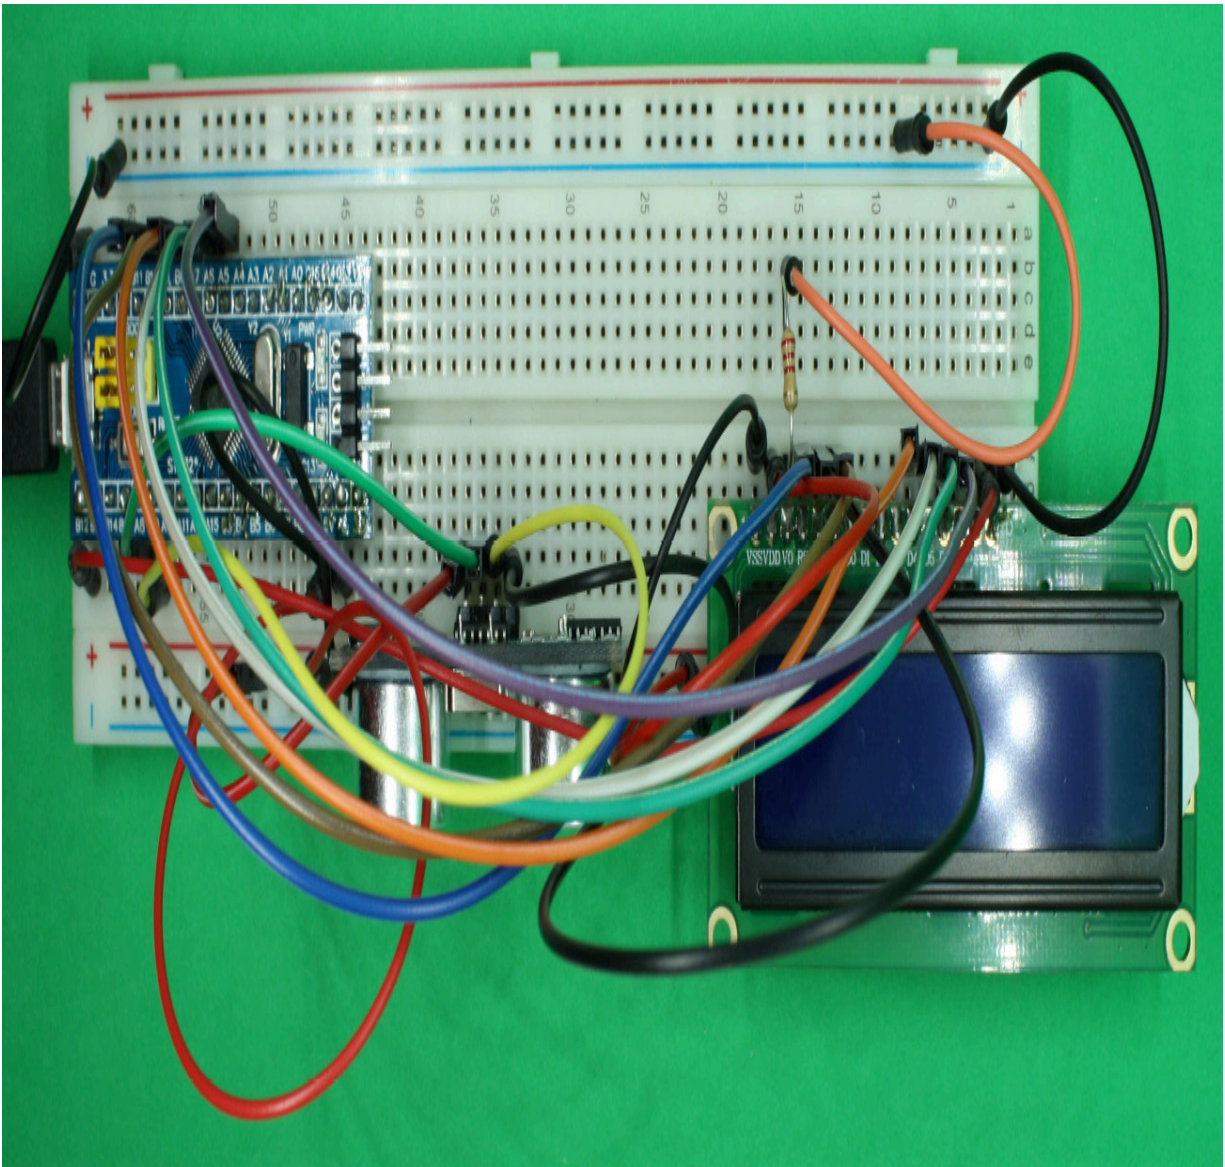

Figure 14.8 – The Blue Pill connected to the LCD and the ultrasonic sensor
*Figure 14.8* shows how everything is connected:
Please note from *Figure 14.8* that all the connections from the ultrasonic sensor are done on its back side. This is to avoid any cable obstructing the ultrasonic signals sent and received on the front of the sensor. Also note that the 1602 LCD's power (pin **VDD**) is connected to Blue Pill's pin **5V**. If you feed the LCD with 3.3 volts, it may not work.
Also note from *Figure 14.8* that the breadboard's upper rail is connected to the Blue Pill's **G** pin (in some Blue Pills it is labeled as **GND**), which serves to connect the LCD's ground and its 2.2k ohm resistor that is used to preset the LCD's contrast.